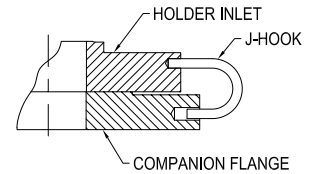

Figure 6
Proper installation orientation of G and G Insert (GI) holders can be easily determined with the use of J-Hooks. The J-Hook is installed on the rupture disc holder inlet and mates with a drilled hole on the upstream companion flange (see figure 6).